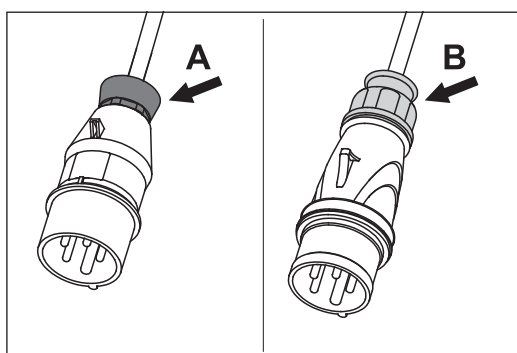

Fig. 27 Original LÄGLER® plug with red nut (A) or yellow nut (B).
- 2 Original LÄGLER® plug with red nut at the cable outlet (Fig. 27, A):
- 2 Original LÄGLER® plug with yellow nut at the cable outlet (Fig. 27, B):